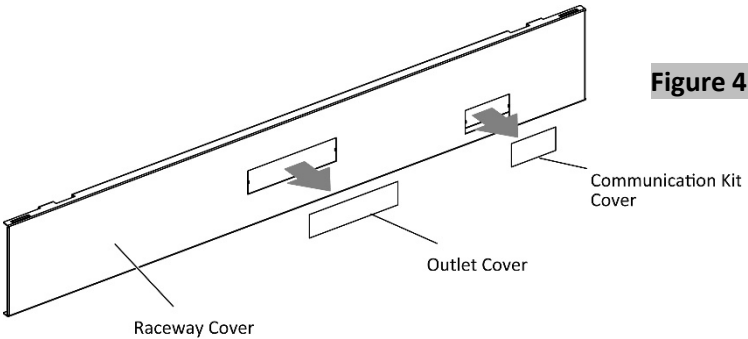

Figure 4
- 5. Pop out the outlet cover, and communication kit cover of the raceway cover that is to be electrified, (Figure 4).